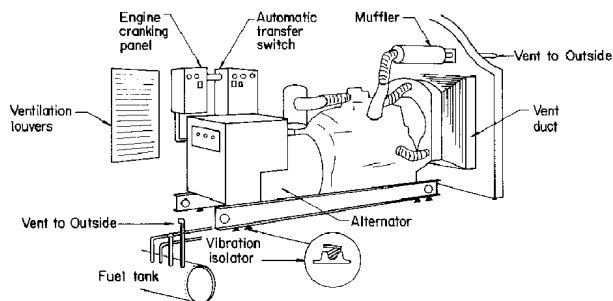

Figure 1. Stationary Standby Power Unit
Gasoline, liquid propane (LP) gas, and diesel engines are available to power these units. LP fuels generally burn cleaner than gasoline. This promotes longer engine life and reduces frequency of service. Gasoline tends to form a varnish in the system during storage, which may make starting difficult. Except for very large engines, diesel units cost more initially than gasoline engines of comparable capacity. However, operating and maintenance costs are lower for diesel engines. A typical standby power unit is shown in Figure 1.